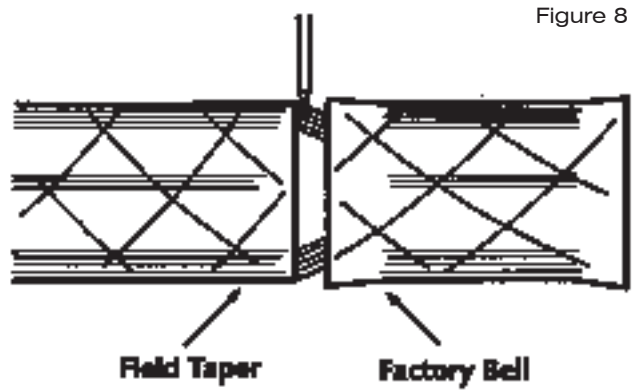

Figure 8
28. Slide the same bell onto a field taper. Tap on lightly. Be sure the taper is seated properly. (See Fig. 8.)